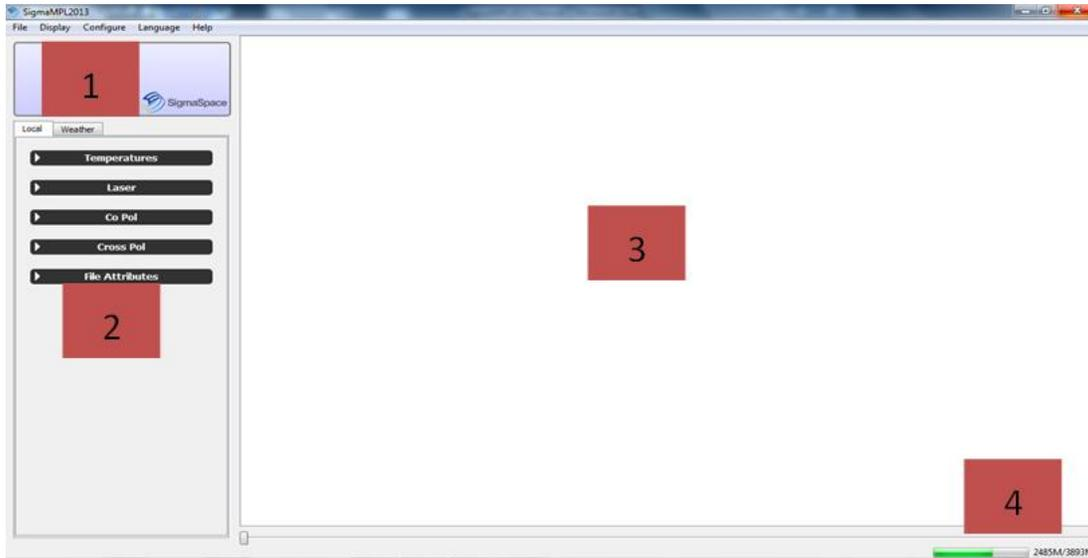

Figure 1: SigmaMPL Opening Window
- 4.1.1. Open *SigmaMPL2015* (or newer version) via the desktop shortcut or under **Start→All Programs→SigmaMPL**. The opening window is displayed in Figure 1.
- 4.1.3. The software consists of four main sections for both *Real Time Hardware Control* and *File Playback Mode*. The sections are shown in Figure 1 and explained in Table 1.